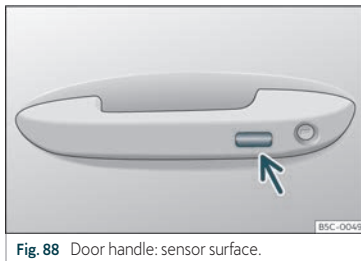

Fig. 88 Door handle: sensor surface.
- **OR** by means of the Keyless Access* (only closing): Press and hold the locking sensor surface >>> **Fig. 88** (arrow) on the door handle for several seconds to close the windows and the sunroof*. If you release the sensor surface, the closing movement stops.
- Press and hold the locking sensor surface >>> Fig. 88 (arrow) on the door handle to close the sunroof. If you release the sensor surface, the closing movement stops.